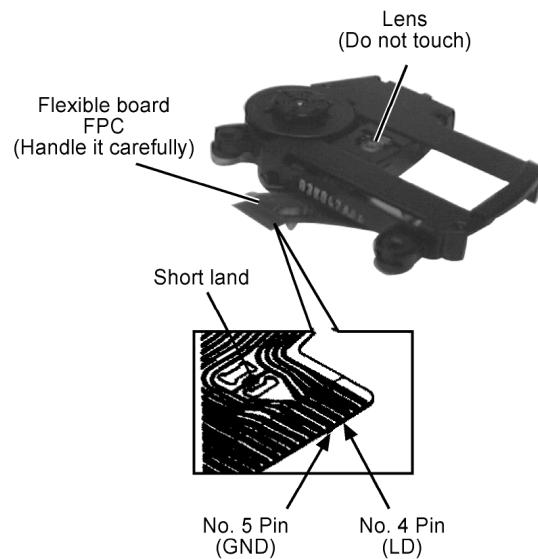

Figure 1
2. To prevent the breakdown of the laser diode, an antistatic shorting pin is inserted into flexible board (FFC board) (Figure 1).